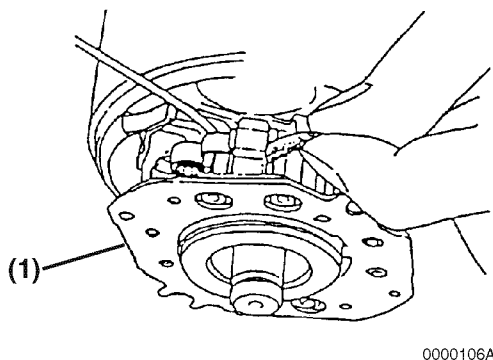

Figure 11-5
4. Pull the brush springs up using a brush spring puller. On the negative (-) side, bring the brush spring into contact with the side of the brush for lifting from the commutator surface. On the positive (+) side, remove the brush from the brush holder assembly (**Figure 11-5, (1)**).